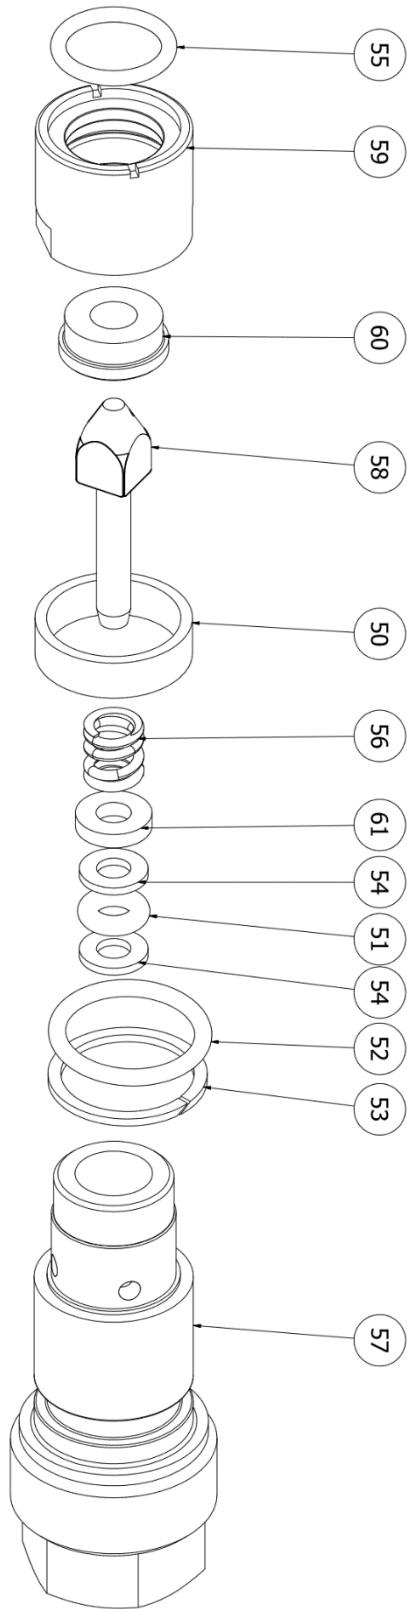

Figure 4
REFERENCE: FIGURE 4
1. Using a 2.5mm Hexagon socket key undo 2x screws (3), and then remove retainer (12) and isolator (13).
2. With a suitable torque wrench fitted with a 19mm socket, undo main valve cartridge assembly (11).
3. Once the main valve cartridge has been removed, refer to figure 4 on the order for disassembly of cartridge assembly.
Pressure Tech Ltd recommends the use of Krytox GPL 205 during servicing. Refer to Figures 4 & 8 for Item numbers. The standard service kit shown below is for a manual regulator fitted with 7mm self-venting sensor. Other service kit configurations available on request.